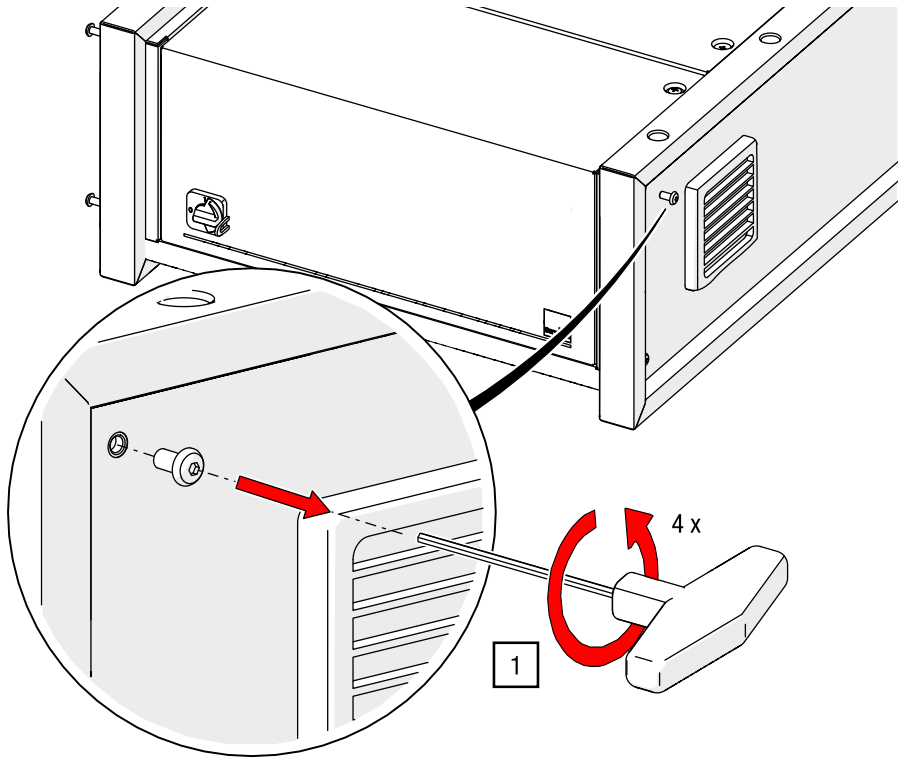

Fig. 20: Loosening the mounting bracket screws on the G-FRAME control unit (control unit model may differ)
| G-FRAME control unit         | The control panel is mounted on the front of the horizontal control unit (see Fig. 20). |
1. Loosen the 4 pre-assembled hexagon socket screws on both sides in the front area of the housing using an Allen key AF 4 (see Fig. 20).